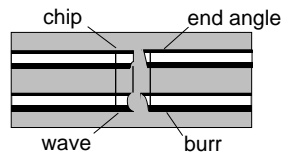

Figure 36
5.10 Inspect the quality of the cleaved fiber ends. If recleaving is necessary, repeat steps 5.5 through 5.9 (Figure 36).